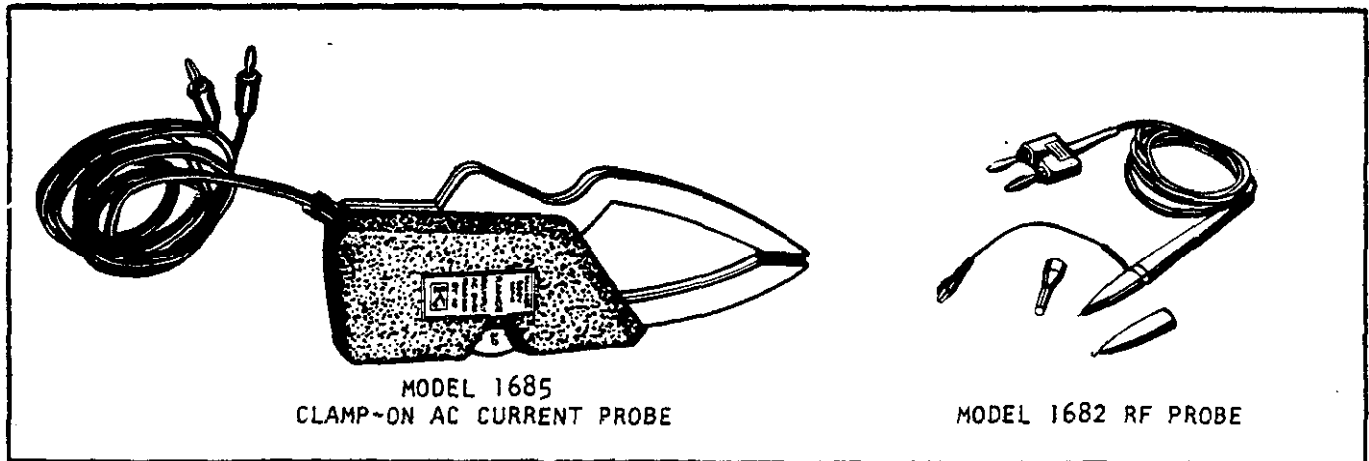

FIGURE 2-6. Model 1682 RF Probe and Model 1685 Clamp-On AC Current Probe.
e. Model 1682 RF Probe. The Model 1682 RF Probe (shown in Figure 2-6) permits measurement of ac voltages at frequencies of 20 kilohertz to 100 megahertz. Connect the probe to the input terminals and select ACV and the appropriate range.
f. Model 1685 Clamp-On AC Current Probe. The Model 1685 Clamp-On AC Current Probe (Shown in Figure 2-6) permits measurement of ac current by clamping around a single conductor, eliminating the need to interrupt the current path. Plug the ac current probe into the DMM and select ACV and the appropriate range. The DMM will display 0.1 volt rms per ampere.